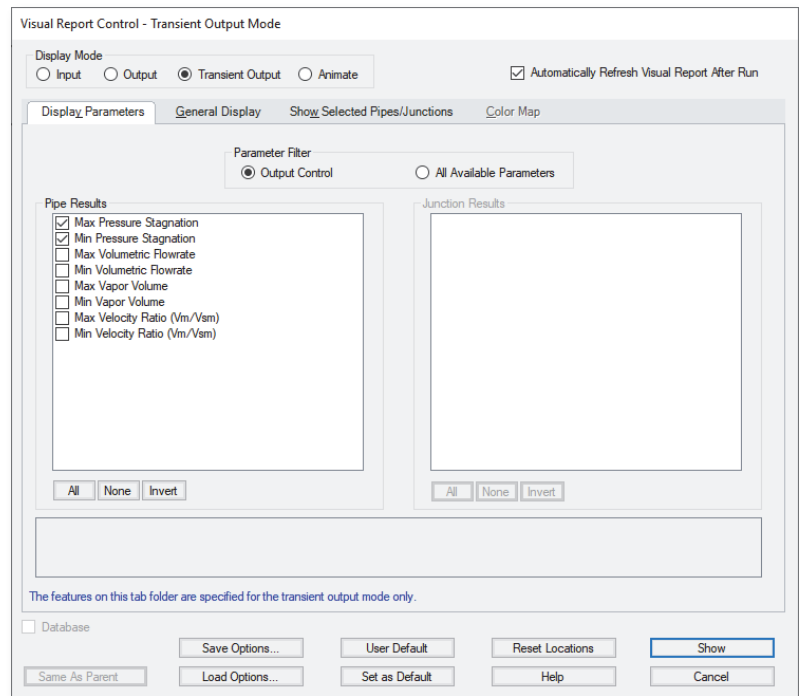
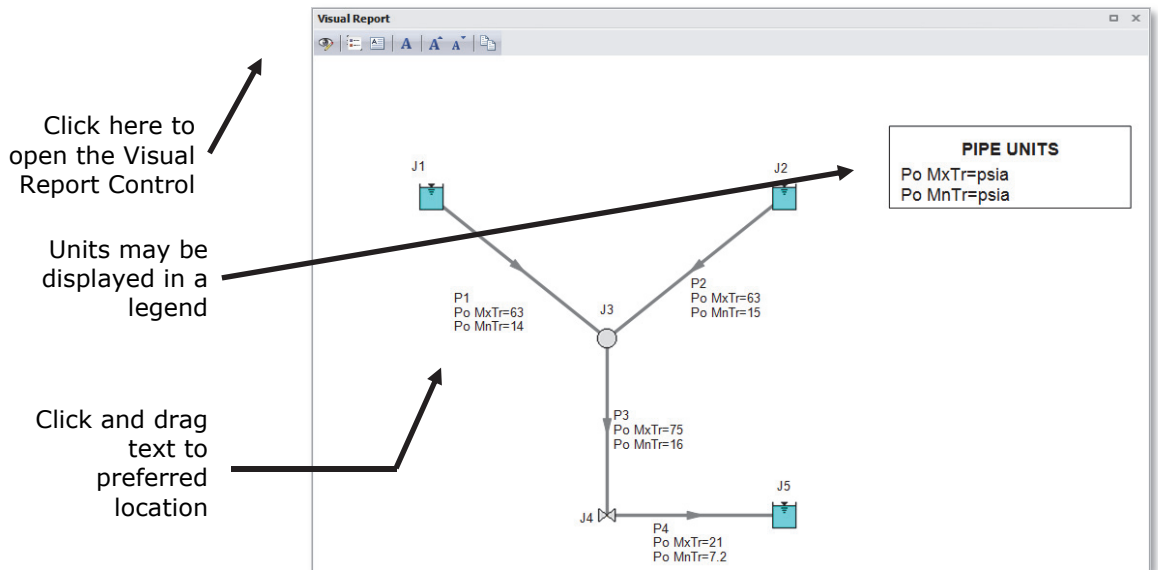
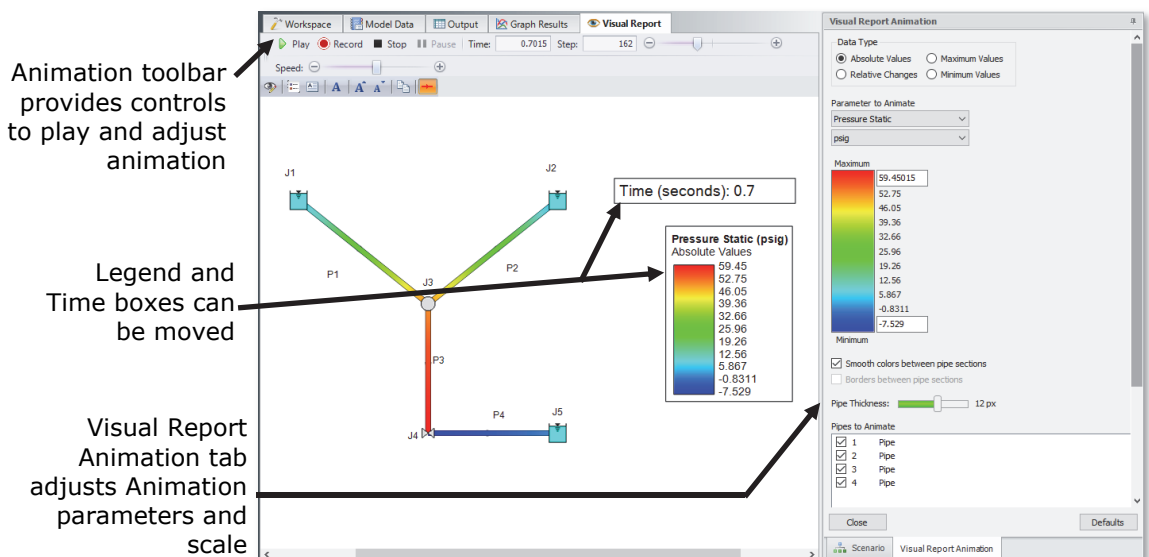

Figure 2.28 The Visual Report Control window selects content for the Visual Report window
Figure 2.29 The Visual Report integrates results with model layout
Figure 2.30 The Visual Report provides an animation feature as an alternate way to view the transient results
- **Click the Visual Report Control button on the Visual Report Toolbar** (or Tools menu) and open the Visual Report Control window, shown in Figure 2.28. Default parameters are already selected, but you can modify these as desired. For now, select “Max Pressure Stagnation” and “Min Pressure Stagnation” in the Pipe Results area. Click the Show button. The Visual Report window graphic is generated (Figure 2.29).
It is common for the text in the Visual Report window to overlap when first generated. You can change this by selecting smaller fonts or by dragging the text to a new area to increase clarity. You can also use the Visual Report Control window to display units in a legend to increase the clarity of the display. These adjustments have already been done in Figure 2.29. This window can be printed or copied to the clipboard for import into other Windows graphics programs, saved to a file, or printed to an Adobe PDF file.
The Visual Report window also provides the ability to animate the transient results as a qualitative tool to visualize the behavior in a network. This option can also be accessed from the Visual Report Control by selecting the Animate Display Mode at the top of the window (see Figure 2.28). When using the animation mode, text results cannot be displayed for the report. Instead, one parameter can be animated using absolute values or values relative to the steady state, or a static map of all maximum/minimum transient values can be generated. The animation can be recorded to a file. The model setup for animating static pressure can be seen in Figure 2.30.